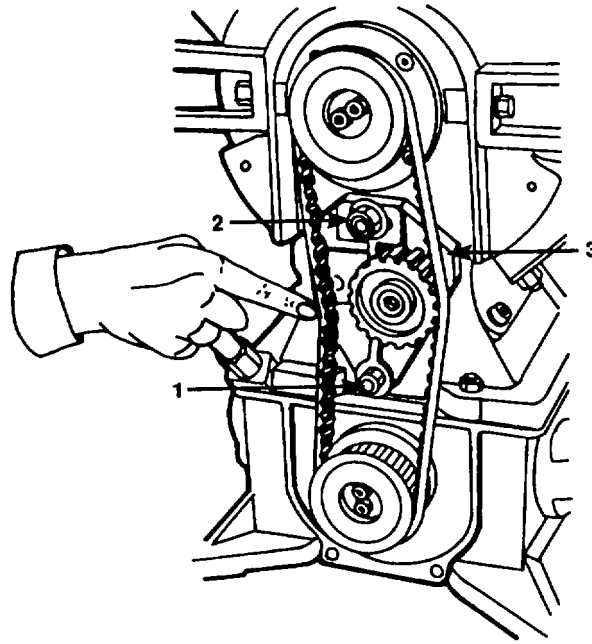

Figure 3-12. Oil Pump Drive Belt Adjustment
- c. Loosen two alien head bolts (1) on belt tensioner (2, figure 3-12). Adjust tensioner until 3/8-inch deflection is obtained. Notify General Support if replacement is necessary.